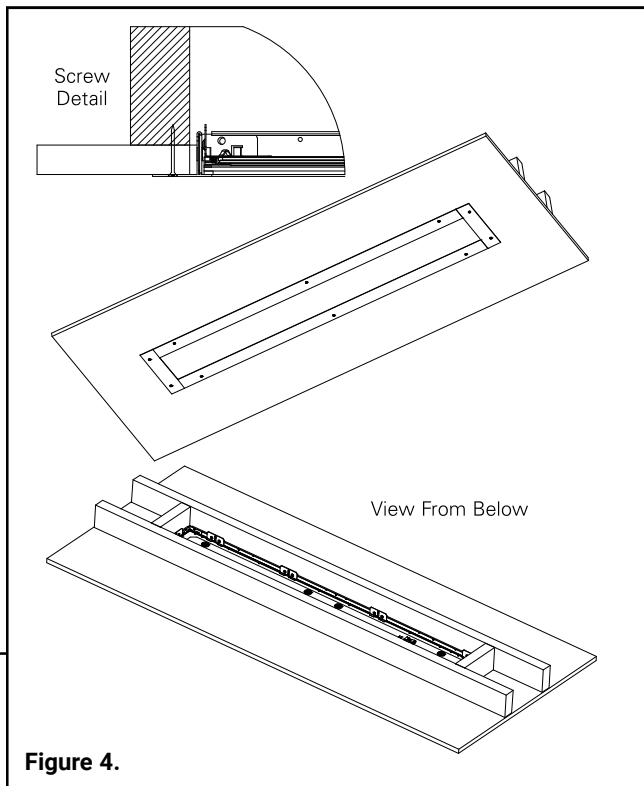

Figure 4.
4. Final installation. (Figure 4.)